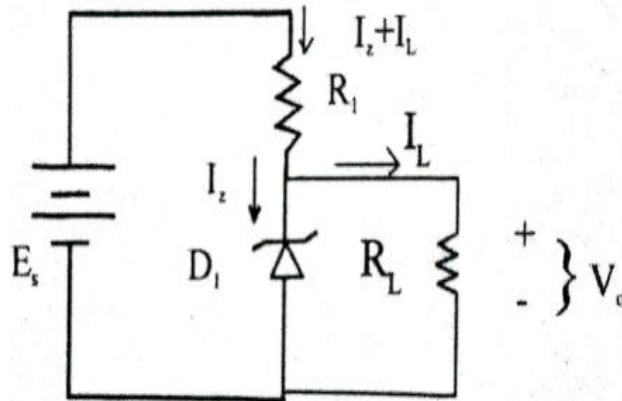

Fig.32
- When a zener diode regulator is required to supply a load current, the total supply current (flowing through resistor  $R_1$ ) is the sum of  $I_L$  &  $I_Z$ .(shown in Fig.32)